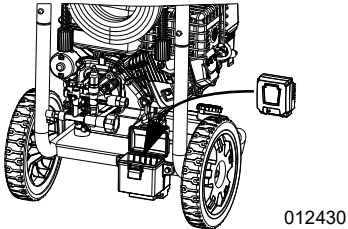

Figure 2-7. Install Battery
7. See Figure 2-7 to install battery.